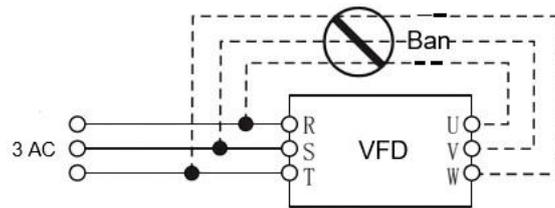

Figure 1-2
- It is strictly prohibited to connect the AC power supply to the output terminals U, V and W of the inverter, otherwise it will cause damage to the inverter, as shown in Figure 1-2.